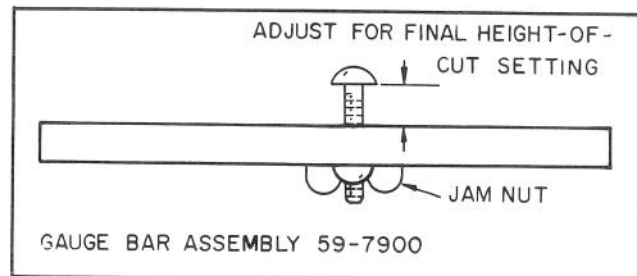
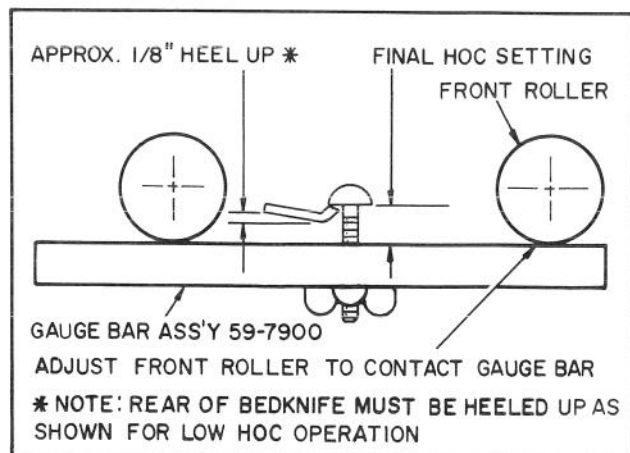

Figure 18
Figure 19
- H. Loosen the gauge bar jam nut and adjust the screw to set dimension between underside of screw head and gauge bar for desired height-of-cut. (Fig. 18). Tighten the jam nut to secure the adjustment. Hook screw head over cutting edge of bedknife and position bar against bottom of front roller (Fig. 19).
- I. Loosen front roller nuts and adjust both ends of the front roller until it contacts gauge bar at both ends. With the gauge bar held firmly against the bottom of the rollers adjust the front roller so the screw head just slips over the lip of the bedknife (Fig. 19). Tighten front roller nuts.